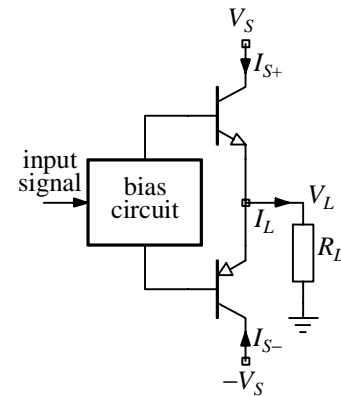

Figure 1a
- (iii) At maximum power output, $V_{LP} = V_S$. The amplifier is class B so the output transistors are never "on" together and never "off" together. In figure 1a, the top transistor deals with the positive half cycles and the bottom transistor deals with the negative ones. This means that the positive supply provides the load current in positive half cycles and the negative supply provides the current for the negative half cycles. The current waveforms supplied by the